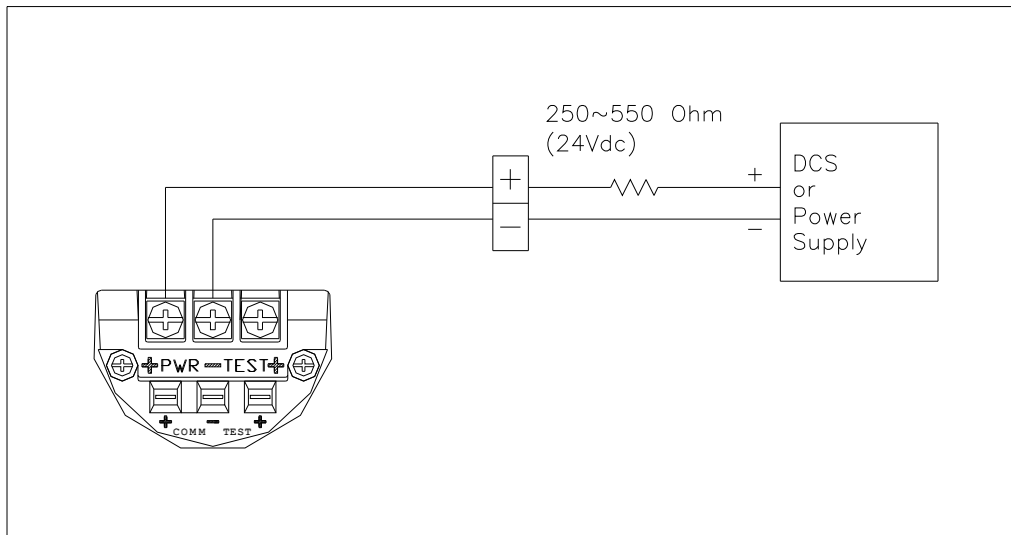

Figure 5-2 Connection with Terminal Board of Transmitter
- (1) Open the housing cover indicated "FIELD TERMINAL". NOTE: For hazardous environments do not open the covers when transmitter is powered and circuits are live.
- (2) Connect the power supply in the terminal indicated "+PWR" (left terminal) and "-" power supply in the central terminal. Do NOT connect "+" power supply in "+" terminal of the point indicated "TEST". It will damage the test diode used for connecting TEST terminal.
- (3) Seal and close unused conduit connections to protect transmitters from severe humidity and explosive gases from entering into the terminal box compartment.
- (4) Avoid running signal wiring near AC or high power lines. In case of ground signal, ground the signal loop's on one side making sure other side is not grounded.
- (5) Ensure loose contacts are eliminated and proper wiring connections are maintained.
- (6) After wiring replace transmitter cover. In case of explosion proof areas, you must satisfy all requirements to maintain certification requirements.
- (7) Do not supply high voltage AC power into transmitter leads as it can cause permanent damage to transmitter.
- (8) Use surge protectors to protect transmitter from external power surges.
- (9) Ensure you have a 250~600 W Loop Resistor in current loop (between power supply and transmitter) for proper HART® Communication. Follow Figure 5-2 below for wiring instructions.